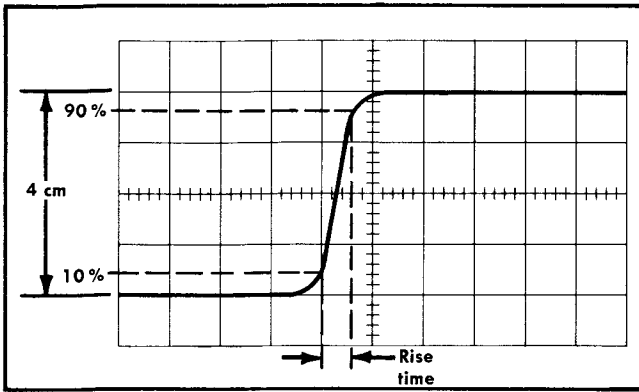

Fig. 5-1. Measuring positive going pulse risetime.
- g. Check the risetime of the display (see Fig. 5-1); it should measure 6 nsec or less, from the 10% point to the 90% point.